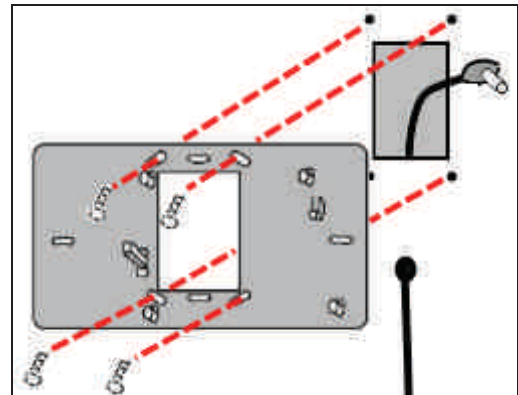

Figure 51
5. Use the included screws to affix the wall mount to the wall over the cut-out (Figure 51).